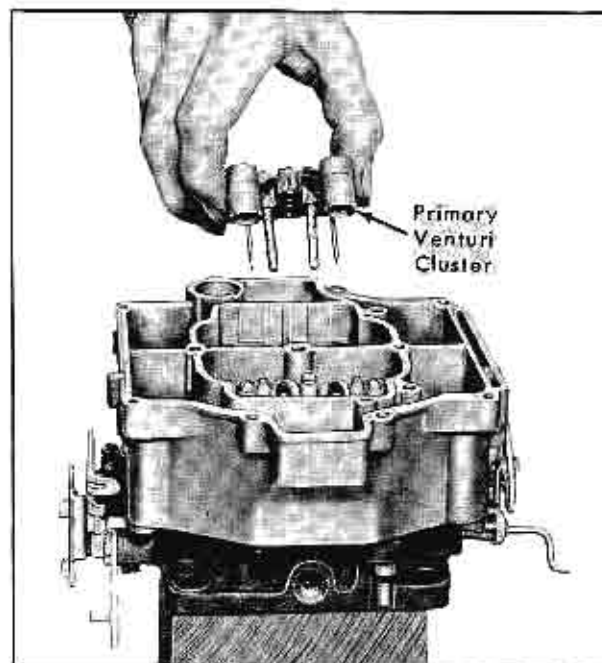

Fig. 12-45 Removing Venturi Cluster
5. Remove primary and secondary venturi clusters, as shown in Fig. 12-45, by removing 3 attaching screws and lockwashers from each. Break cluster loose by finger pressure only, and remove and discard gaskets. Do not attempt further disassembly of either cluster.